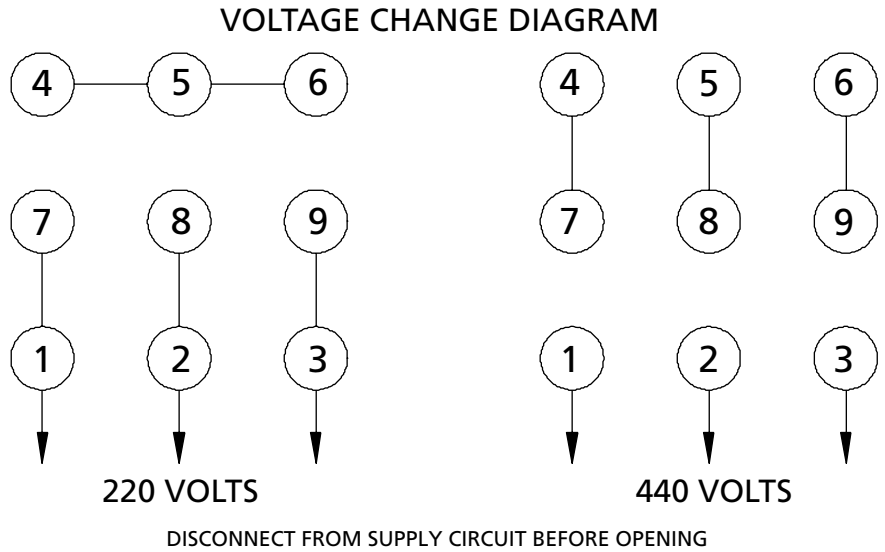

Figure 2 – Wiring Diagram
Refer to Figure 2.
1. Grinder is prewired at the factory for 220 volt, 3-phase operation. See Figure 2 for wiring diagram.
2. Grinder can be wired for 440 volt, 3-phase operation. See Figure 2 for wiring diagram for 440 volt.